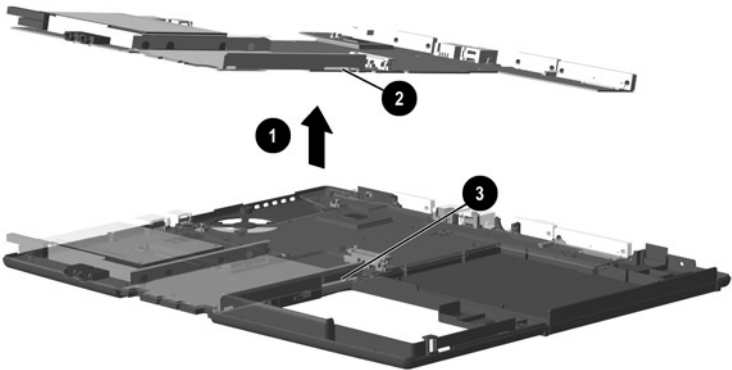

Figure 5-21. Lifting the System Board
6. Lift up the front edge of the system board ❶ until the board and the battery connector ❷ are clear of the base enclosure (Figure 5-21).
**CAUTION:** When removing the system board, make sure the battery connector ❷ is carefully routed out of the opening ❸ in the base enclosure in which it rests. Failure to follow this caution can result in damage to the battery connector.